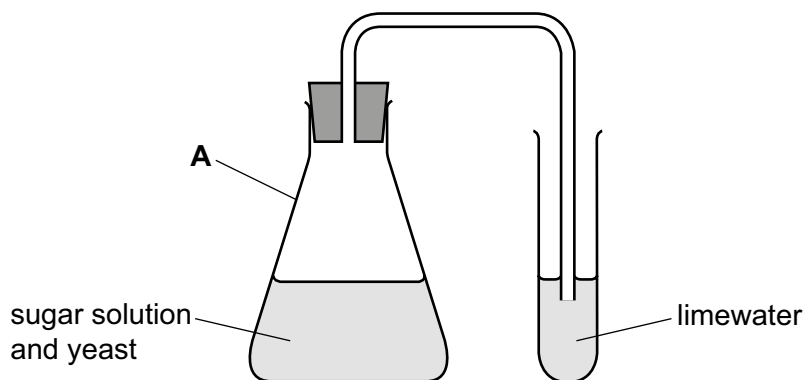

Fig. 1.1
step 5 Place the mixture obtained in the apparatus shown in Fig. 1.1.
- (a) Name the item of apparatus labelled **A** in Fig. 1.1.